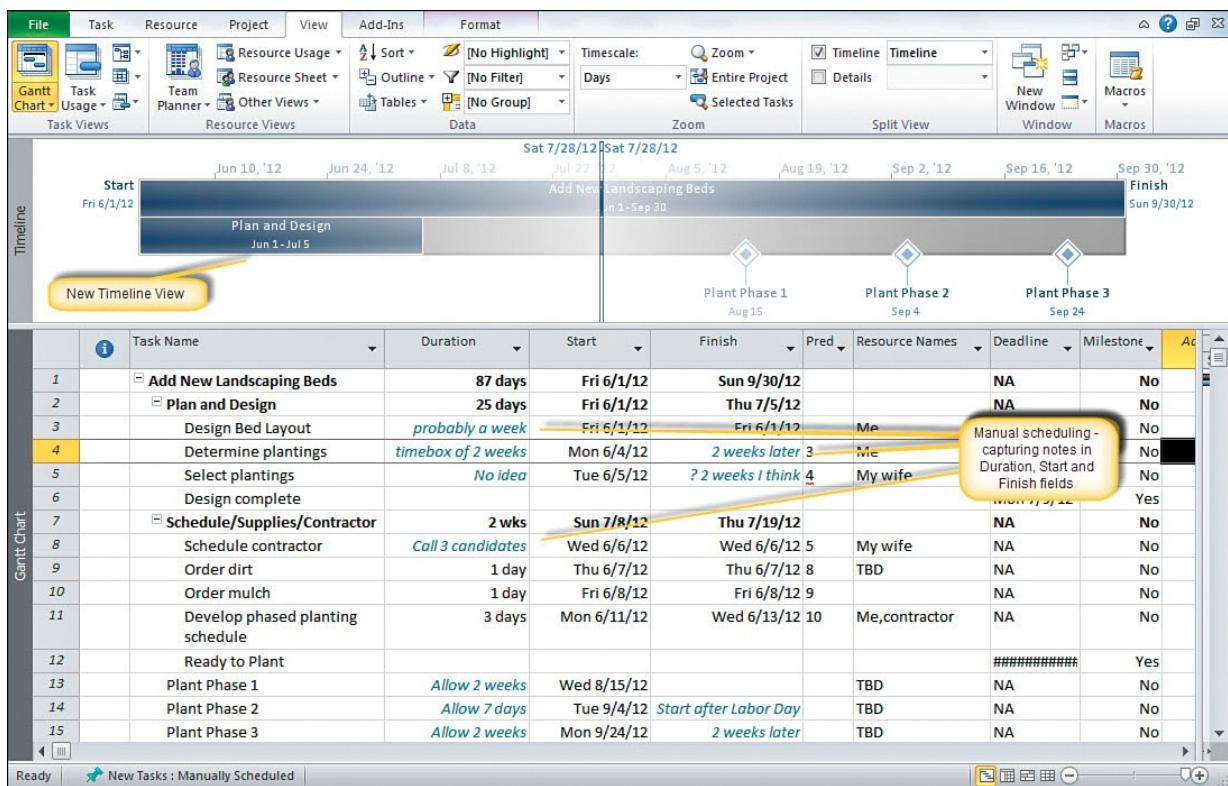

Figure 23.15. Simple project to show new Timeline View and manual scheduling features in Project 2010.
- **User-Controlled Scheduling**—With this new capability, you can now manually schedule individual tasks (versus having the task automatically scheduled using the Project scheduling engine). Not only does Microsoft make it easy to visually distinguish a manually scheduled task, but it has implemented an “anything goes” approach with these task types. There are no default values for Start date, Duration, or Finish date, and you can enter any text value in these fields. Plus, none of the normal Project scheduling engine qualities are enforced—constraints and calendars are ignored, dependencies do not change the scheduled dates, and resource assignments not duration. The task is totally controlled by what you (the user) enter. See Figure 23.15 for example of both the new Timeline View and aspects of user-controlled scheduling.